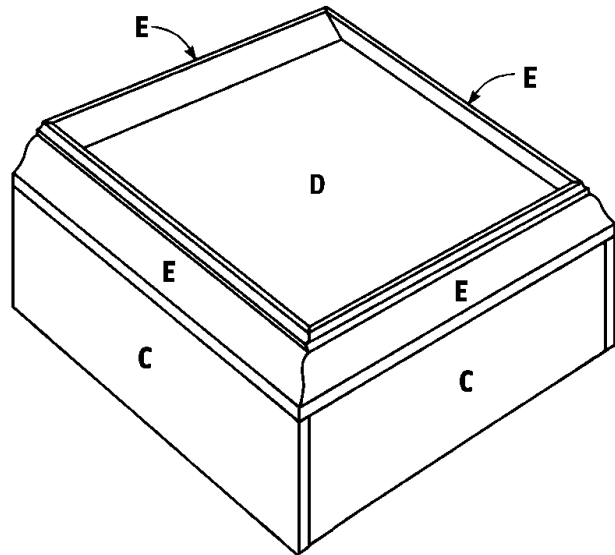

Figure 4
3. Cut two Shorter Top Trims (F) from 3-1/4"-wide crown molding at a compound 45-degree angle, each measuring 14-3/4" long. Attach the two Short Trims (F) on the shorter sides of the Lid Top (D) as shown in *Figure 4*.